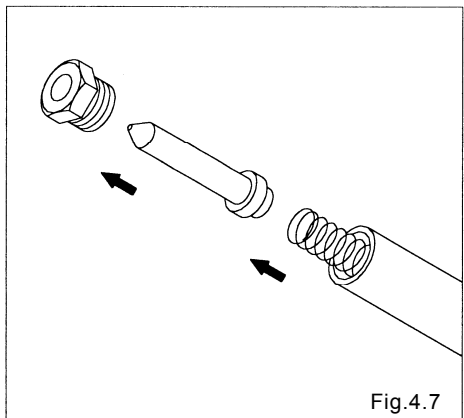

Fig.4.7
- Remove the nut, and remove the valve from the center rod. [Fig.4.7]